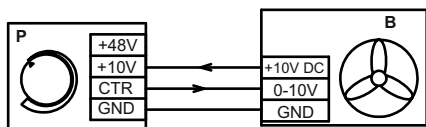

Fig. 2. Speed controller connection to 10V DC power supply
**The wiring diagrams are shown in fig. 2 and 3.**